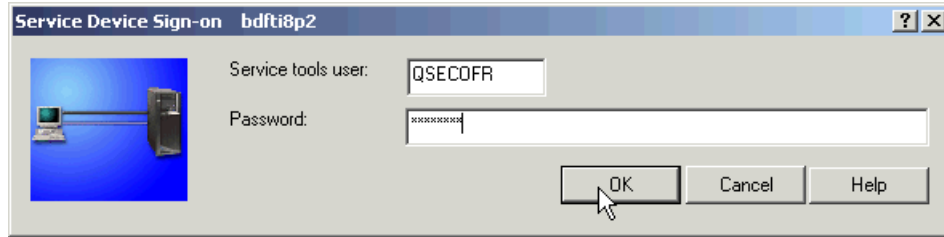

Figure B-9 SST Signon
- You will be asked to sign on to SST as shown in Figure B-9. Enter your Service tools ID and password and press **OK**.